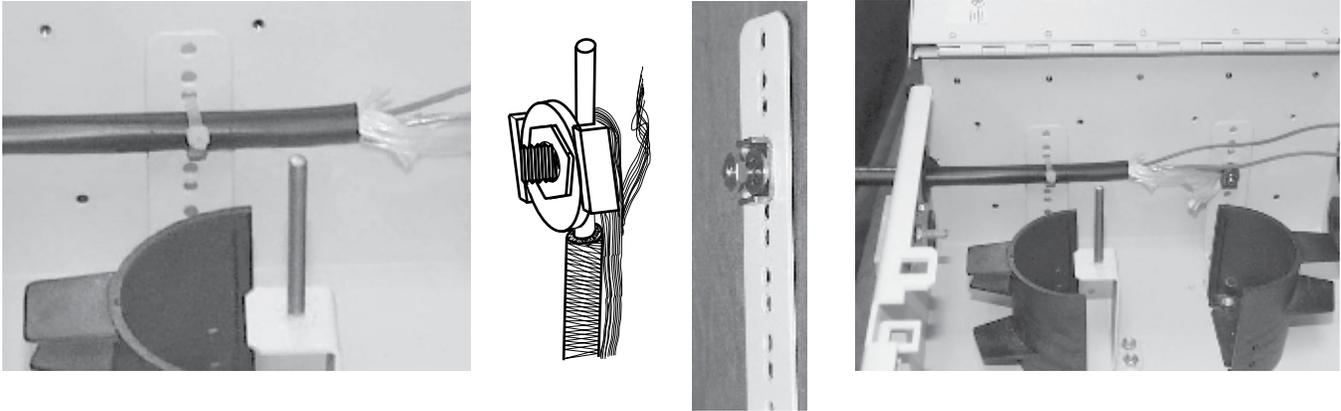

Figure 13
Step 2: Use a cable tie to attach the cable to the bracket in a hole that lines up with the cable entry port (Figure 13).